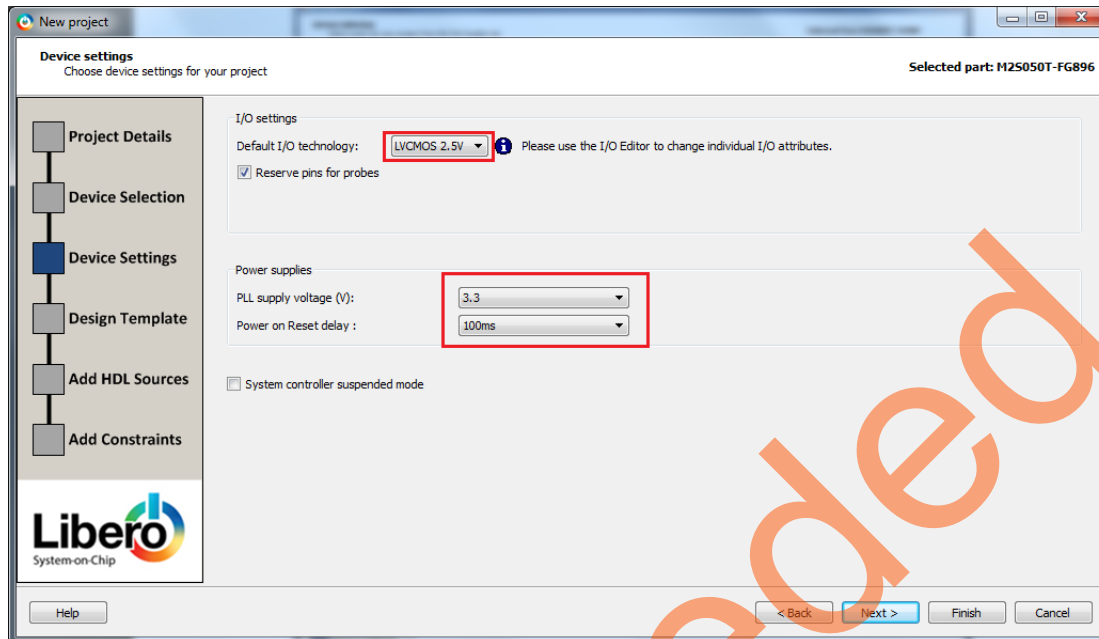

Figure 4 • New Project - Device Settings
6. Select the information for **Device Settings** as shown in Figure 4 and click **Next**.